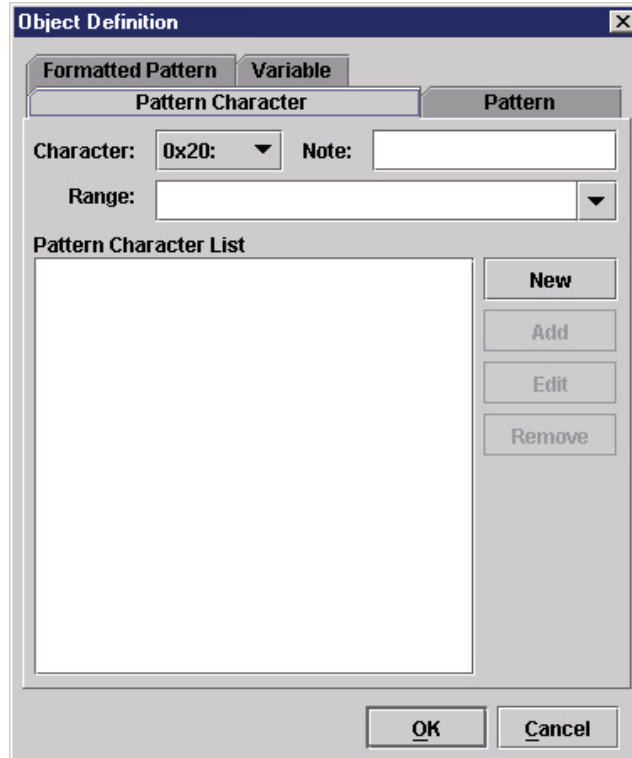

Figure 151 Object Definition: Pattern Character
1. In the CST Manager, click **Patterns / Variables**. See Figure 151.